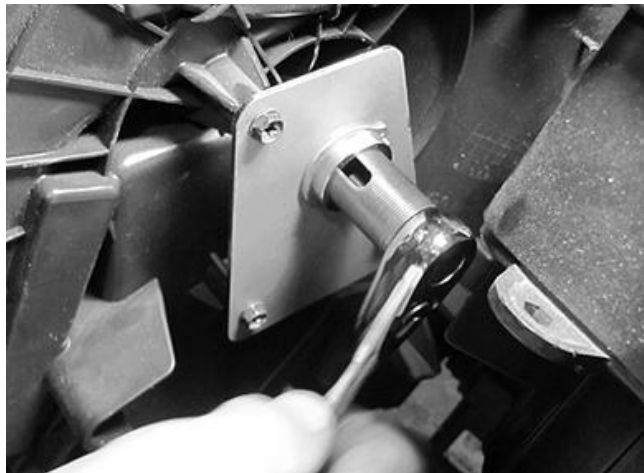

Figure 9 – Rotating Hole Saw
18. Rotate the hole saw clockwise without power tools (i.e. by hand with a ratchet or wrench – Fig. 9). You will feel resistance as you cut the case. Continue to rotate until saw socket cuts through the HVAC case.